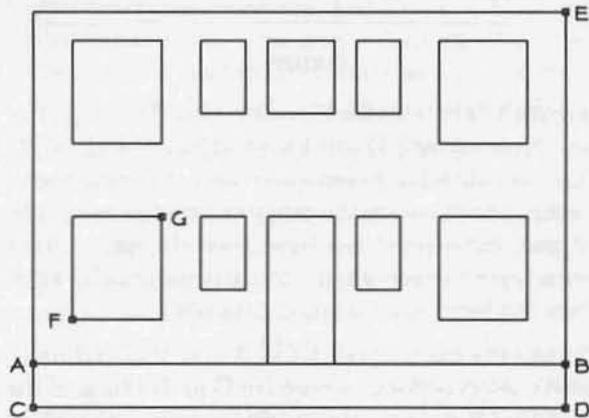

Figure 6
Figure 6 shows the modified elevation base drawing. You create a new line (C-D) by copying the original base line (A-B) some distance (2'-0" in this example) and then trim the vertical end lines to this new line. You determine the distance to copy based on the grade condition around the building which you are modeling. Since very few buildings sit on absolutely flat sites, and even then, the elevation of
At the prompt: "Enter first point of rectangular slab," snap (LYR snap should be on) to a corner point on the 2-D base drawing (point C in Figure 6). At the prompt: "Enter second point of rectangular slab," snap to point E, Figure 6. Repeat the process for each of the windows and the door; snapping to points F and G for one of the windows, for instance.
Next, you need to draw a 3-D Line at Z 0 on the face of the slab, indicating on the outside of the model the first floor grade elevation. To do so, you enter the 3-D Line menu (F1) from 3-D ENTITY, toggle Z-HIGHT (F4) to indicate that both ends of the line will be located at the currently set Z Height (0). Draw the 3-D Line by snapping to points on the 2-D base drawing (A and B, Figure 6). For purposes of clarity in later steps, you should make the color of this line different from the color of the slab or a different line type; it is illustrated in this example as a dashed line.